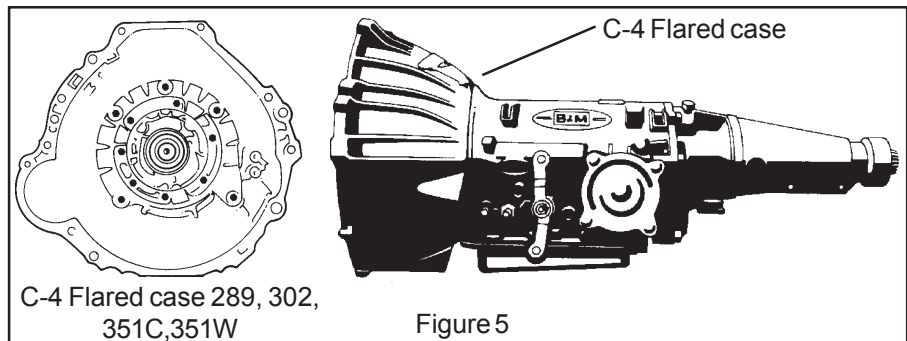

Figure 5
Console Shift Models: Remove cotter key or clip and disconnect shifter rod or cable from shift lever on transmission (see Fig. 5). Allow rod or cable to hang free. Cable shift units, remove two bolts holding cable cracket to pan and let cable and bracket hang free.
1. Flared case: The bellhousing bolts directly to the transmission case with 5 bolts and the oil pump bolts are separate. (See Fig. 5) The case flares out to meet the bellhousing.